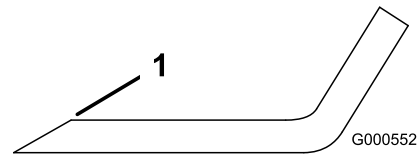

Figure 118
- Use a file to sharpen the cutting edge at both ends of the blade (Figure 118).
Note: If the blade is not balanced, file some metal off the end of the sail area only (Figure 118).